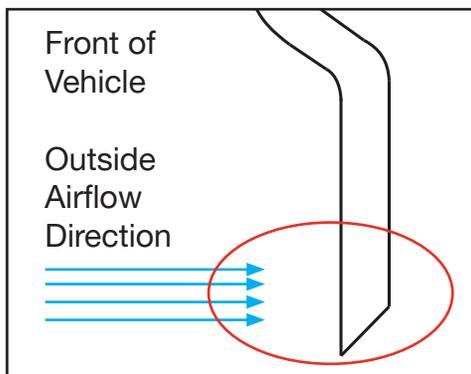

Figure 3: Outlet Vent for Open Configuration
- Ensure that the venting location of the outlet is on the rear of the vehicle or the bottom rear of the engine compartment and pointing vertically downward (see Figure 3).